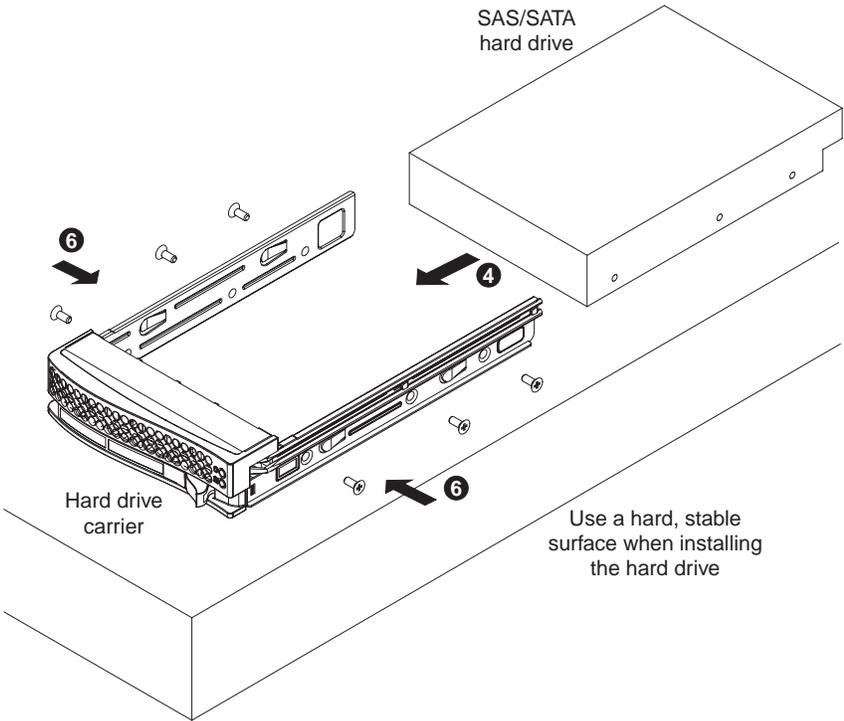

Figure 4-3 Installing a Drive into a Hard Drive Carrier
4. Slide the hard drive into the carrier with the printed circuit board side facing down (see Figure 4-3).
6. Secure the hard drive using all six screws (see Figure 4-3).